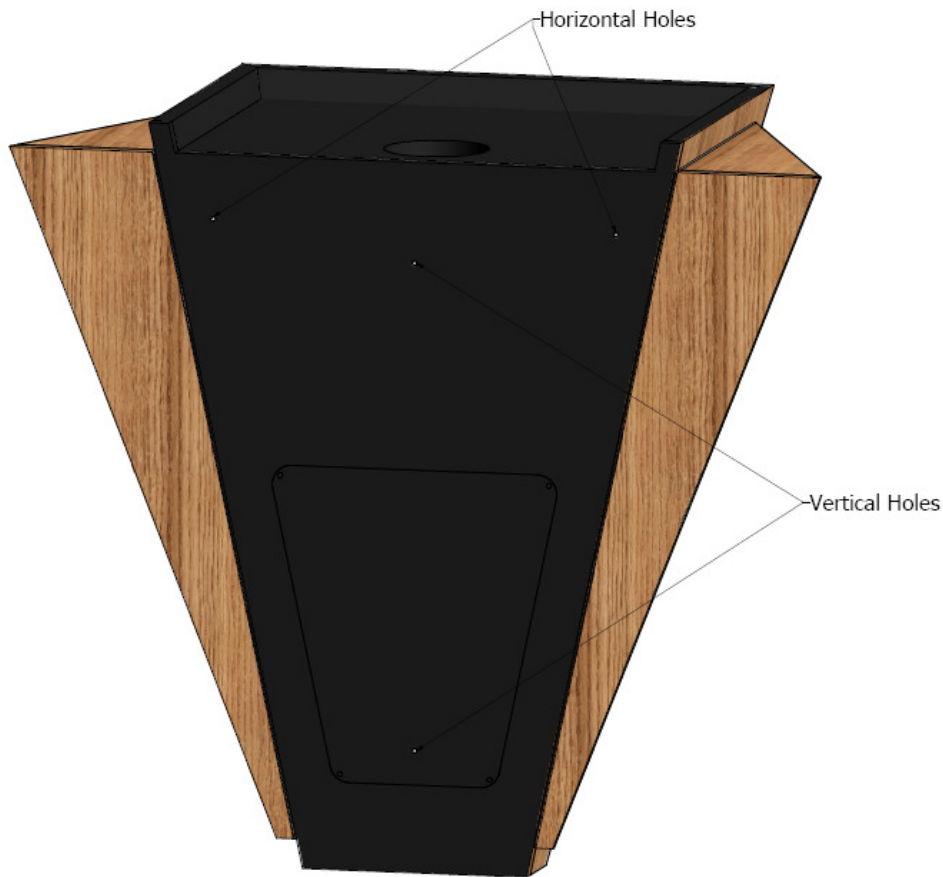

Figure 1
- Place the provided screws in the appropriate holes based on how you wish to mount your speakers. Please see figure 1.